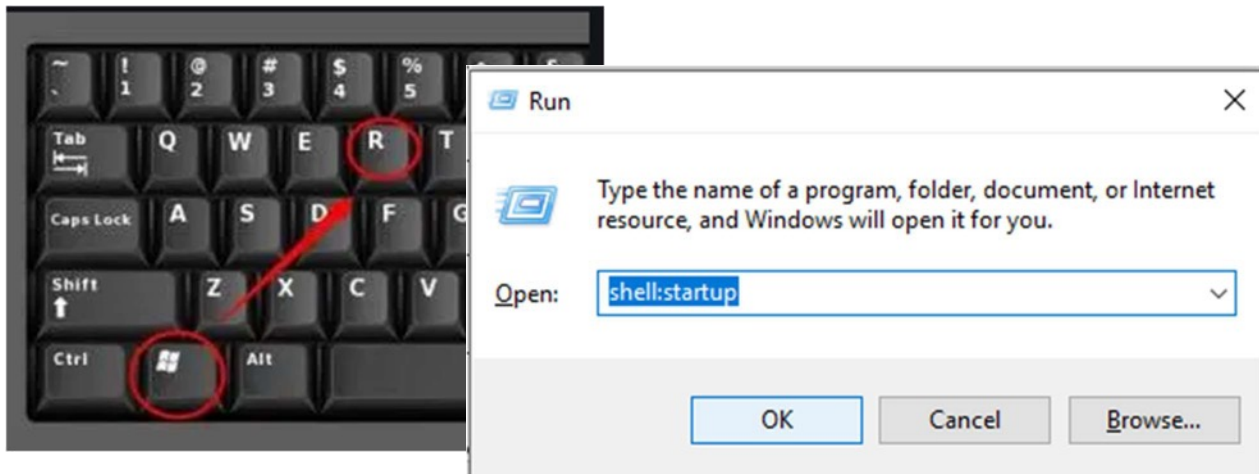

Figure 2-10
Step 4 - Open the **Startup** folder to paste this copied shortcut. Press the **Windows Key + R** as shown in Figure 2-10 to launch the **Run Window**. Type **shell:startup** and then press **Enter** (or OK) as shown.